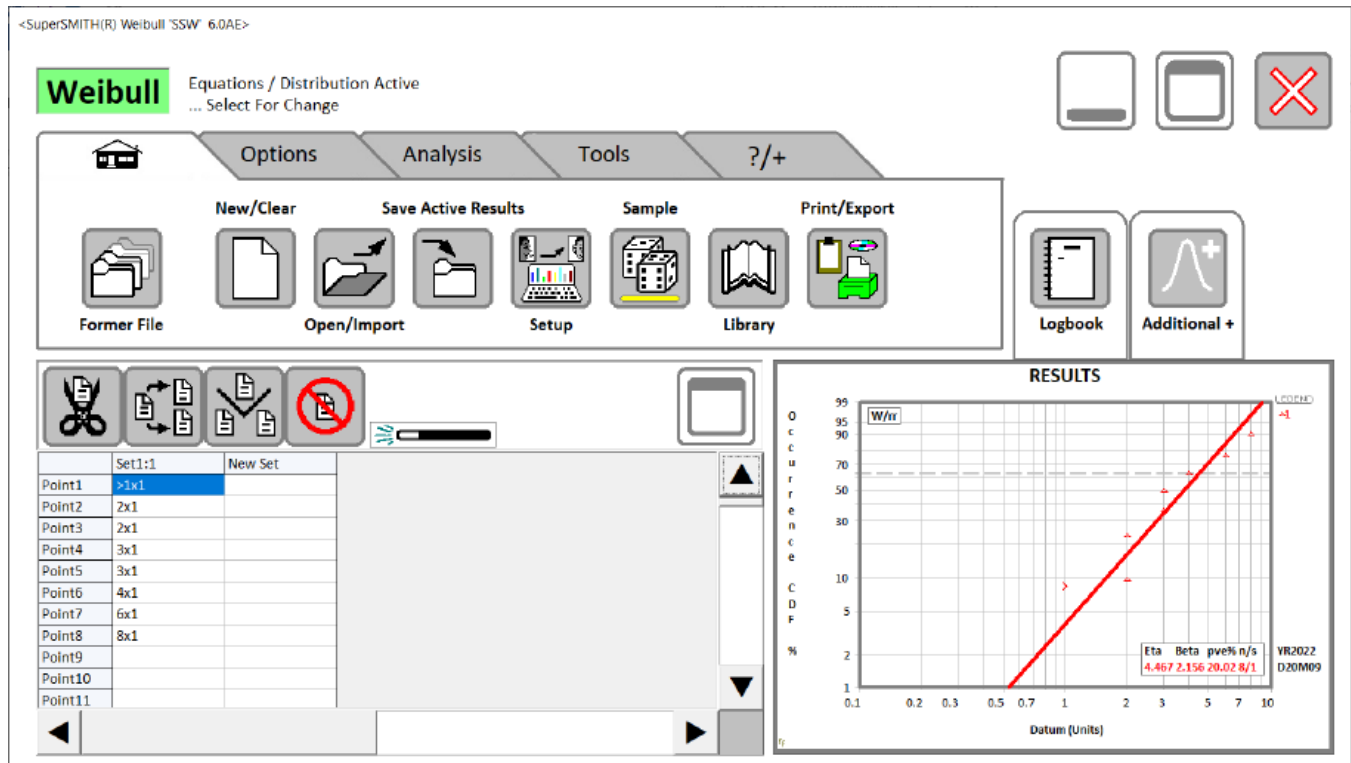

Figure 2: New SuperSMITH Weibull Main Screen Icon Layout.
| Figure 1: SSW 6.0 Layout (See Figure 2 For optional tabs layout, Figure 11 for New SSV/SSY Layout)..... | 7 |
| Figure 2: New SuperSMITH Weibull Main Screen Icon Layout..... | 8 |
DIRECT INSTALL: Power up the PC (Windows or simulator). Have the SS **setup.exe** and other installation files available. Load onto the PC by running **setup.exe** and following the prompts. After install, within the SuperSMITH group, select the SuperSMITH Weibull program. This is the SMITHW.EXE file or the icon showing plotted data with fit and confidence lines. Initially select “Yes” to agree to usage conditions, and automatically advance to the Main Screen (Figure 1 below shows the former icon layout, Figure 2 on the next page shows the new icon layout).
Use single selecting (single touching for touch screens) mostly in SuperSMITH. Double selecting is discouraged to minimize hand stress. We will be using life data mostly for illustration, but any type of measured data with variability can be analyzed. **For this tutorial if using the DEMO software, all input data must only be loaded from a file previously saved by a FULL SuperSMITH software program (provided with the software).** If using the FULL software, this is not a concern but maybe easier to do. All file names shown here are on a single text line for easy copying. Reminder: Figure 1 shows the new SSW icon layout for standard pointing device use, and Figure 2 shows an optional larger icon layout with tabs for touch screen use.
Start the SSW software by choosing Start from the Windows™ Main Screen, then the SuperSMITH group, then Weibull. On first use, select “Yes, I agree...” if you are asked and if you agree to the software use terms. The Main Screen (View of Figure 1 or Figure 2) should appear with an equation Label (“Weibull” at first), some icons, a data grid and a results box.
- B. Probability plot should appear. Select plot to enlarge. The plot should resemble Figure 2. Your solution should indicate Eta=4.467, Beta=2.156. If not ... check the data and/or reset the method to Weibull “rank regression” standard. Select the full-window plot or use the <ESC> key to shrink the plot returning you to the Main Screen.